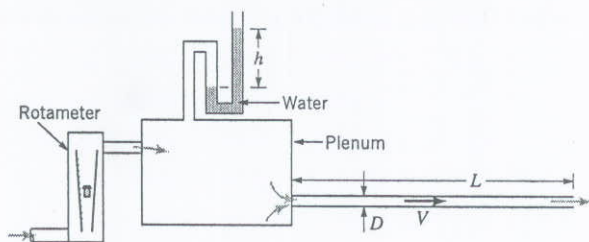

FIGURE P8.126
**Objective:** Theoretically, the friction factor,  $f$ , for laminar pipe flow is given by  $f = 64/Re$ , where the Reynolds number,  $Re = \rho VD/\mu$ , is based on the average velocity,  $V$ , within the pipe and the pipe diameter,  $D$ . Also, the flow is normally laminar for  $Re < 2100$ . The purpose of this experiment is to use the device shown in Fig. P8.126 to investigate these two properties.